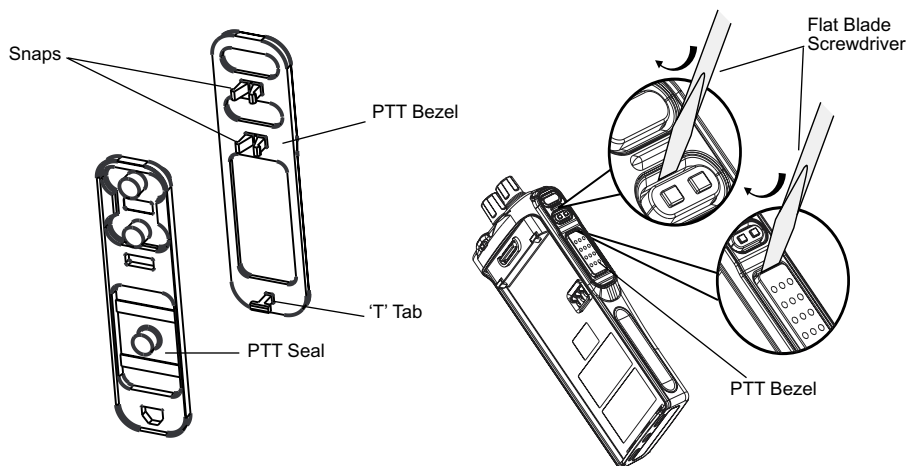

Figure 4-9 PTT Removal
- a. Insert the tip of a small screwdriver in between the bezel and side button 2 (refer to Figure 4-9).
- b. Insert the tip of a small screwdriver in between side button 2 and PTT button (refer to Figure 4-9).